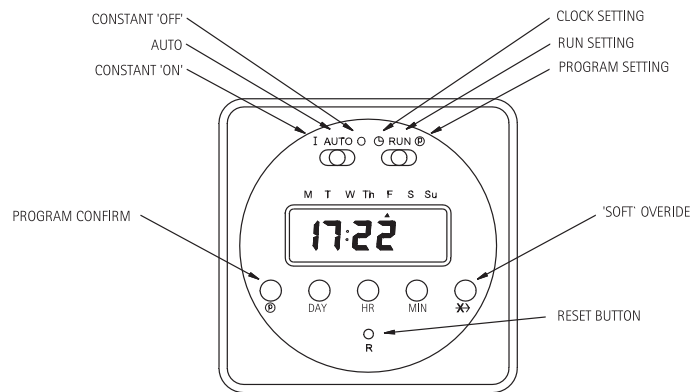

Fig. 2 Time Switch
7.3 Setting Day of Week and Time of Day (refer to Fig 2).